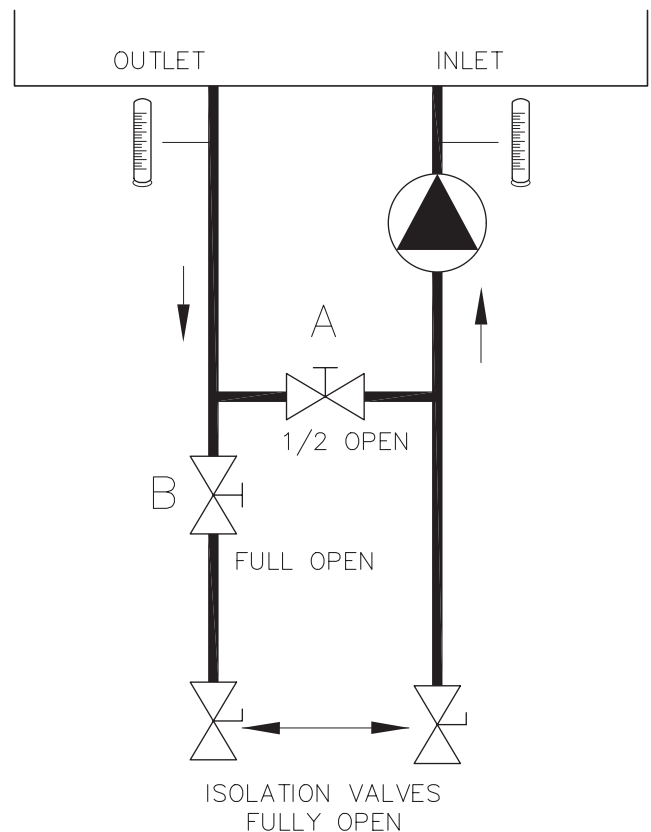

Fig. 16: "H" Bypass Setting
Heaters operated with an inlet temperature of less than 120°F (49°C) MUST have a manual bypass (see Fig. 16) or an approved low-temperature operation system (Figs. 9 and 10) to prevent problems with condensation. This piping is similar to a primary/secondary boiler installation, with a bypass acting as the secondary boiler piping. Raypak strongly recommends that thermometer(s) be placed into the heater piping next to the in/out header to facilitate temperature adjustment. Inlet water temperatures below 120°F (49°C) can excessively cool the products of combustion, resulting in collection of condensate in the heat exchanger area beyond the capacity of the condensate evaporation system.
Three-way valves intended to regulate system water temperatures by reducing flow in the boiler should not be used. Raypak heaters are high-recovery, low-mass heaters which are not subject to thermal shock. See Fig. 16 and instructions on page 17 for adjusting the manual bypass.
3. With the heater operating at 100% firing rate, set Valve A (the bypass) to ½ open position, and Valve B to fully open position. See Fig. 16.